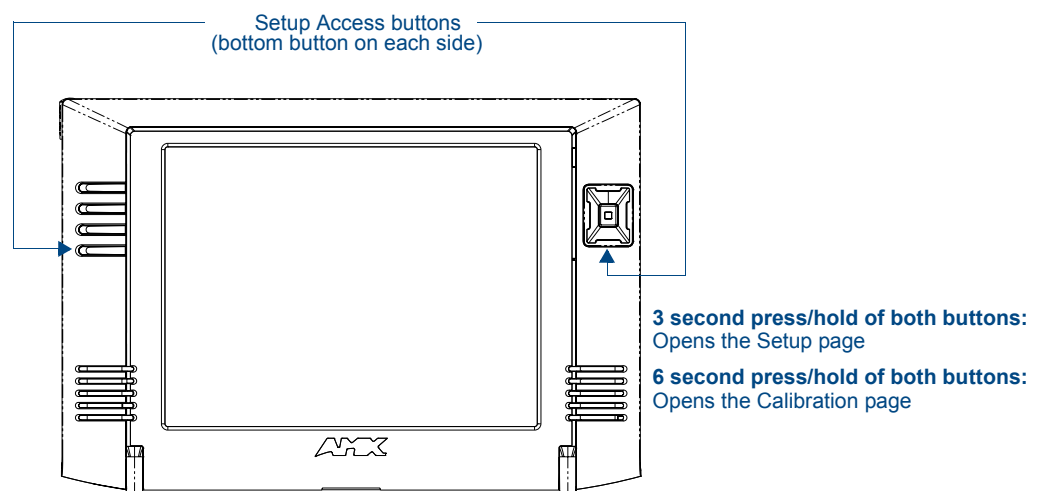
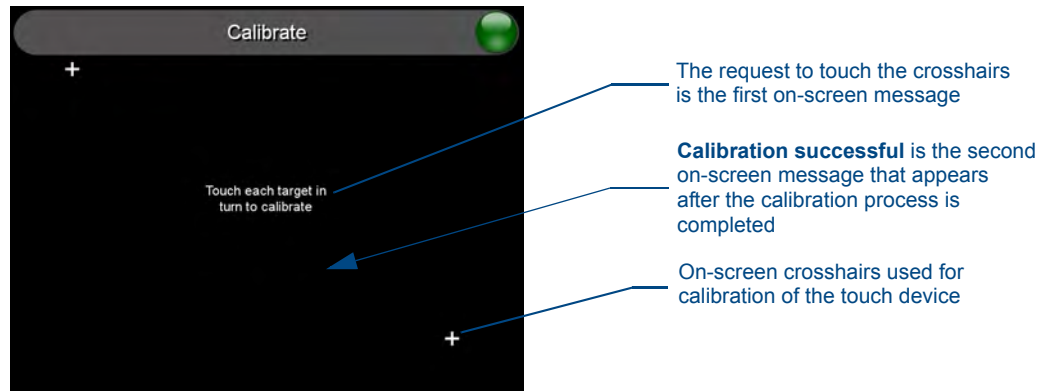

FIG. 88 Location of Setup Access buttons
FIG. 89 Touch Panel Calibration Screens
1. Press and hold the two lower external pushbuttons on both sides of the MVP (FIG. 88) for **6 seconds** to pass-over the Setup page and access the Calibration setup page (FIG. 89).
2. Using the included stylus, press the crosshairs (on the Calibration page) to set the calibration points on the LCD (FIG. 89).